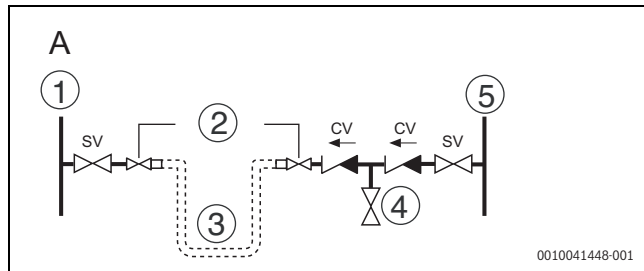

Fig. 10
- The CH sealed system must be filled using an approved filling loop or comply with figure 10, p. 14 for system fill.